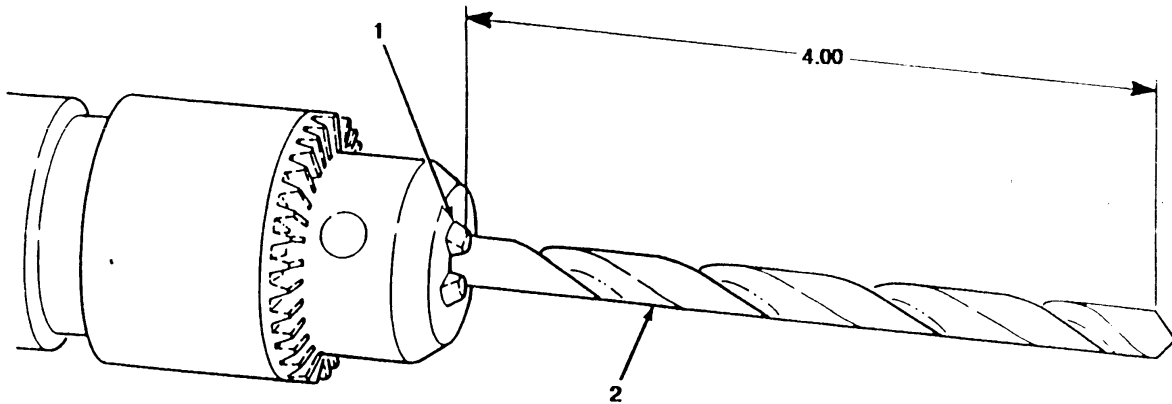

FIGURE 3-14
4. Position 0.339-inch drill bit (2) (letter R drill bit) four inches from drill chuck jaws (1). (see figure 3-14)